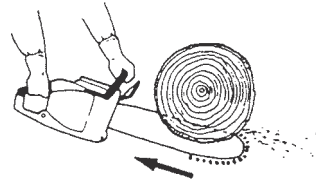

Fig. 21
- When cutting with the upper part of the chain the reactive force will push the saw towards you and away from the wood you are cutting. (Fig. 21)